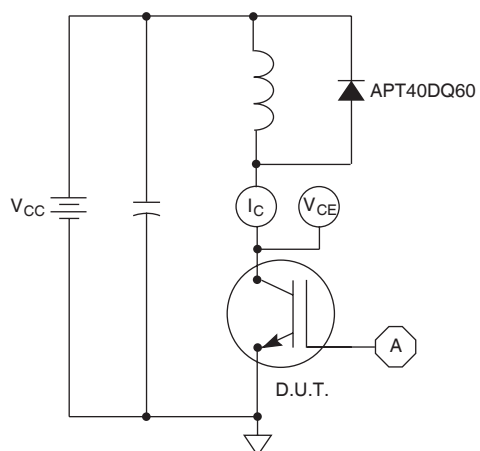

Figure 21, Inductive Switching Test Circuit
① Repetitive Rating: Pulse width limited by maximum junction temperature.
② For Combi devices,  $I_{ces}$  includes both IGBT and FRED leakages
③ See MIL-STD-750 Method 3471.
④  $E_{on1}$  is the clamped inductive turn-on energy of the IGBT only, without the effect of a commutating diode reverse recovery current adding to the IGBT turn-on loss. Tested in inductive switching test circuit shown in figure 21, but with a Silicon Carbide diode.
⑤  $E_{on2}$  is the clamped inductive turn-on energy that includes a commutating diode reverse recovery current in the IGBT turn-on switching loss. (See Figures 21, 22.)
⑥  $E_{off}$  is the clamped inductive turn-off energy measured in accordance with JEDEC standard JESD24-1. (See Figures 21, 23.)
⑦ Continuous current limited by package lead temperature.